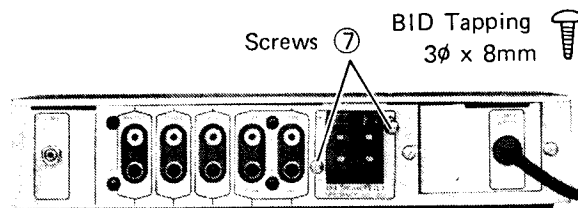

Figure 6.
1. Remove two screws ⑦. See Figure 6.